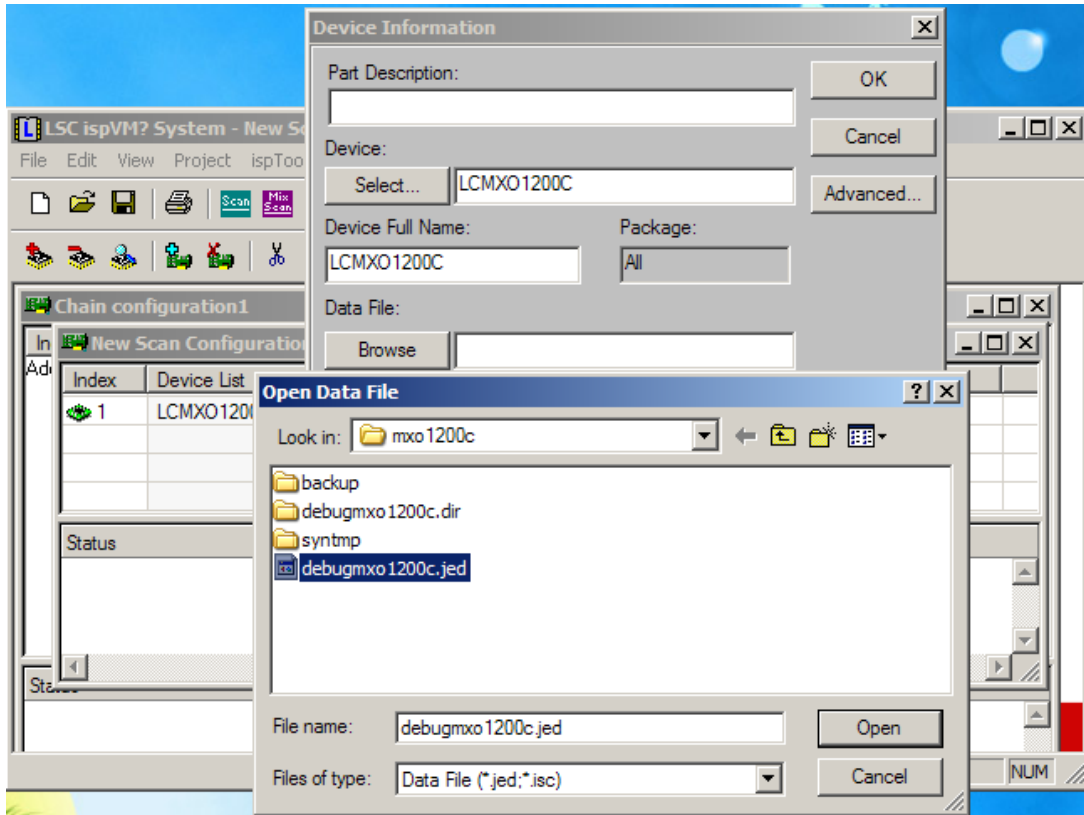

Figure 3-5 Selecting the CPLD Data File
8. Select the CPLD data file (Figure 3-5).